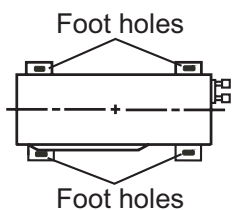

Fig. 20
- (1) Place the outdoor unit on the support.
- (2) Fix the foot holes of outdoor unit with bolts. (As show in Fig. 20)